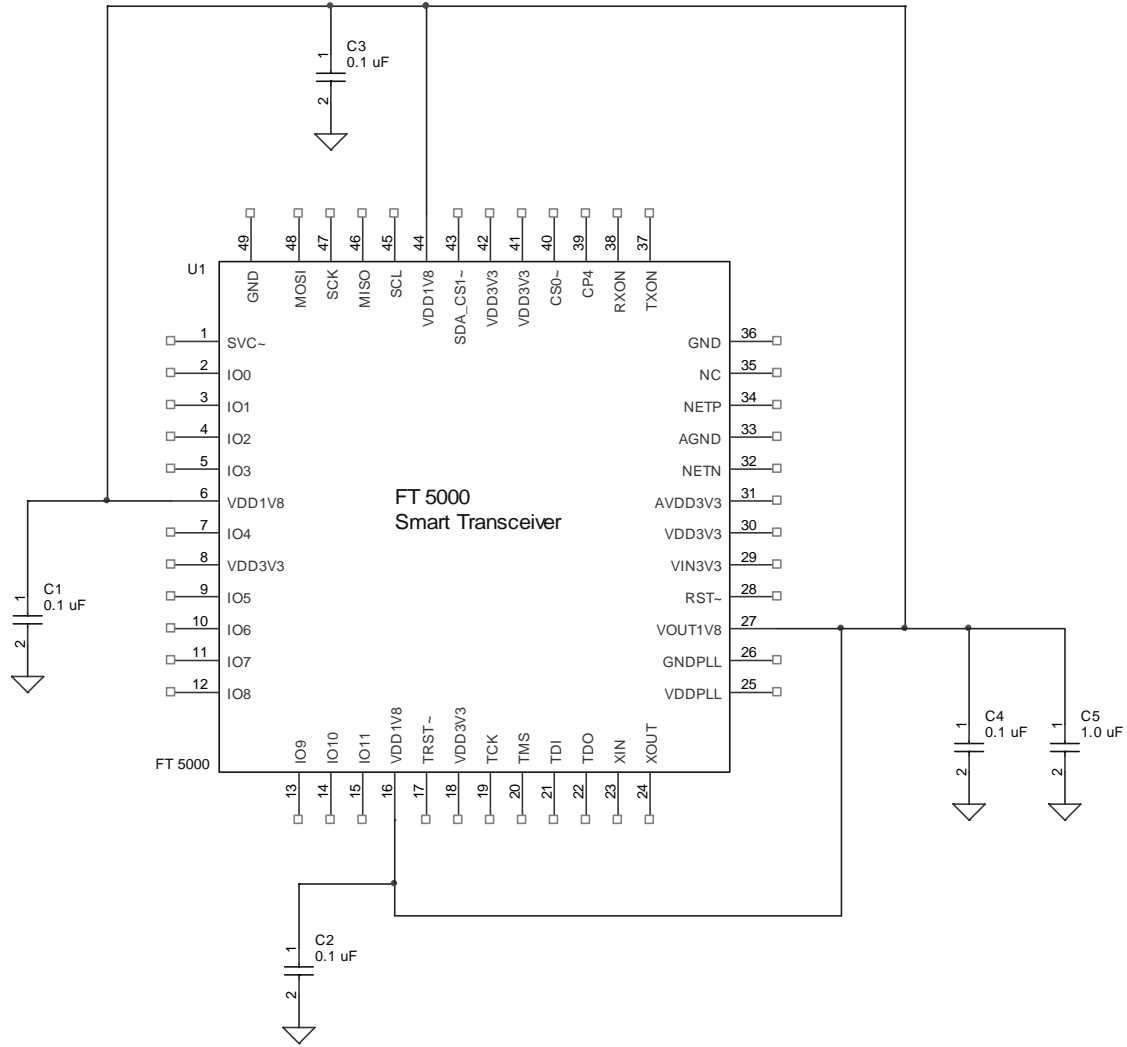

Figure 13. Connections for the VDD18 Pins
The **VOUT1V8** pin (27) is the output of the on-chip voltage regulator. Connect the **VDD1V8** pins (6, 16, and 44) to the **VOUT1V8** pin (27) to connect the 1.8 V input pins to the output of the internal voltage regulator, as shown in **Figure 13** on page 38. In addition, connect a bulk decoupling capacitor (**C5** in **Figure 13**) near the **VOUT1V8** pin (27), in addition to the other decoupling capacitor.